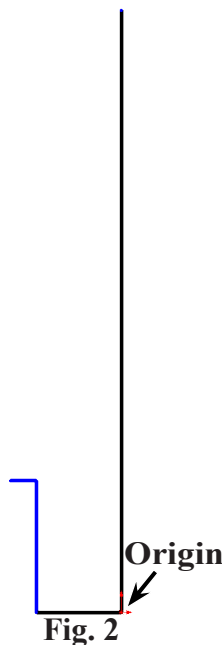

Fig. 2
Step 3. Click **Line**  (L) on the Sketch toolbar.
Step 4. Starting from the Origin  sketch lines, **Fig. 2**.